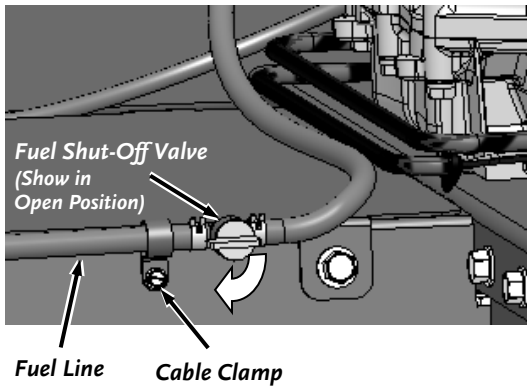

Figure 32
1. **PRO XL model:** Turn the Fuel Shut-Off Valve to the Closed position (**Figure 32**).